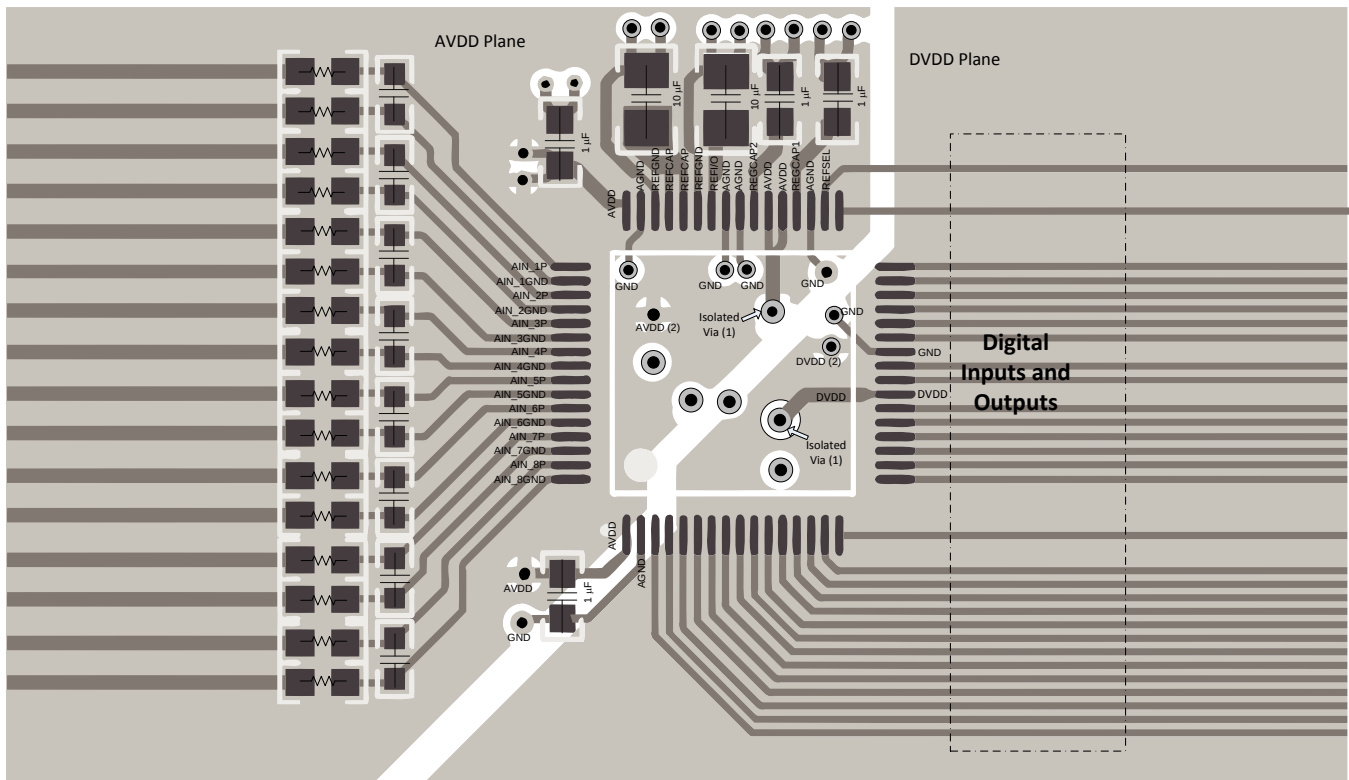
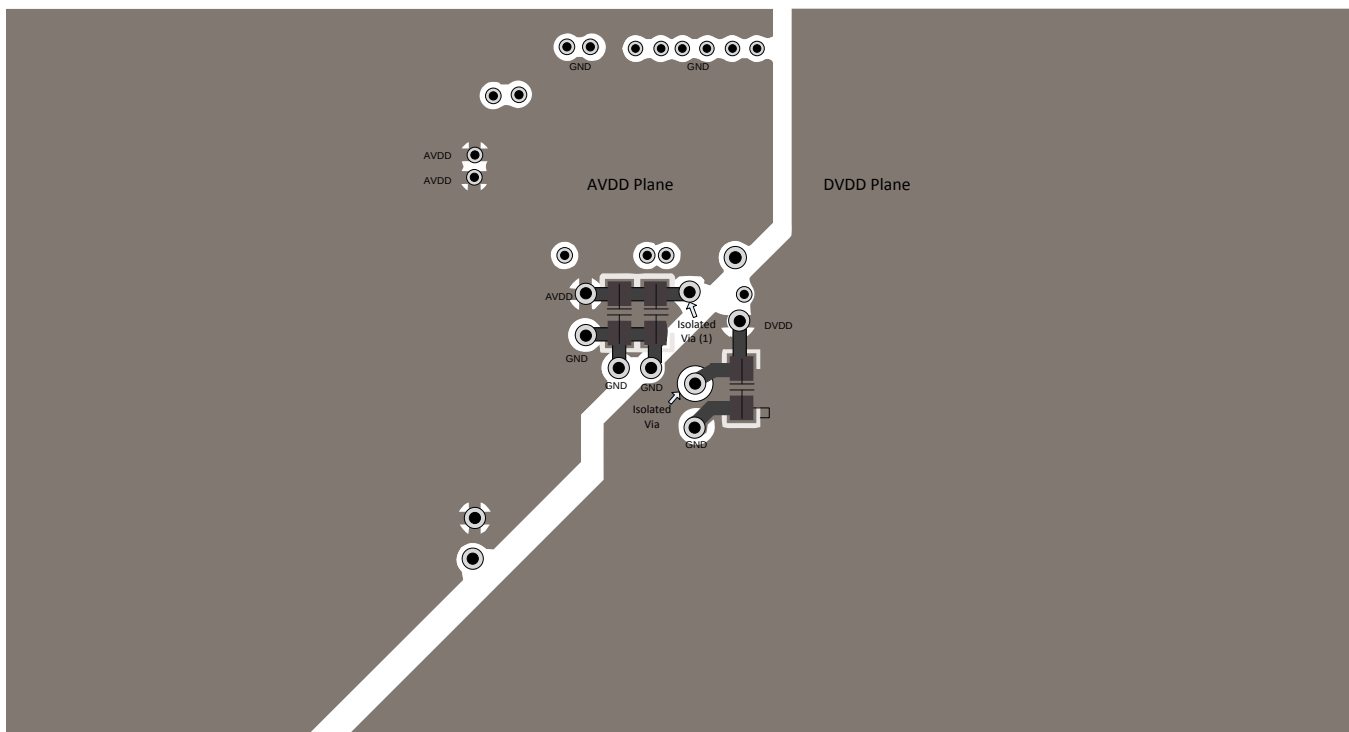

图 90. Top Layer Layout
图 91. Bottom Layer Layout
Figure 90 and Figure 91 illustrate a PCB layout example for the ADS8598H.
- Power sources to the ADS8598H must be clean and well-bypassed. As a result of dynamic currents during conversion, each AVDD must have a decoupling capacitor to keep the supply voltage stable. Use wide traces or a dedicated analog supply plane to minimize trace inductance and reduce glitches. Using a 1- μ F, X7R-grade, 0603-size ceramic capacitor is recommended in close proximity to each analog (AVDD) supply pin. Bypass capacitors for AVDD pins 1 and 48 are located on the top layer; see Figure 90. AVDD supply pins 37 and 38 are connected to bypass capacitors in the bottom layer using an isolated via (1); see Figure 91. A separate via (2) is used to connect the bypass capacitor to the AVDD plane.
- For decoupling the digital (DVDD) supply pin, a 1- μ F, X7R-grade, 0603-size ceramic capacitor is recommended. The DVDD bypass capacitor is located in the bottom layer; see Figure 91.
Figure 90 and Figure 91 illustrate a recommended layout for the ADS8598H along with proper decoupling and reference capacitor placement and connections.